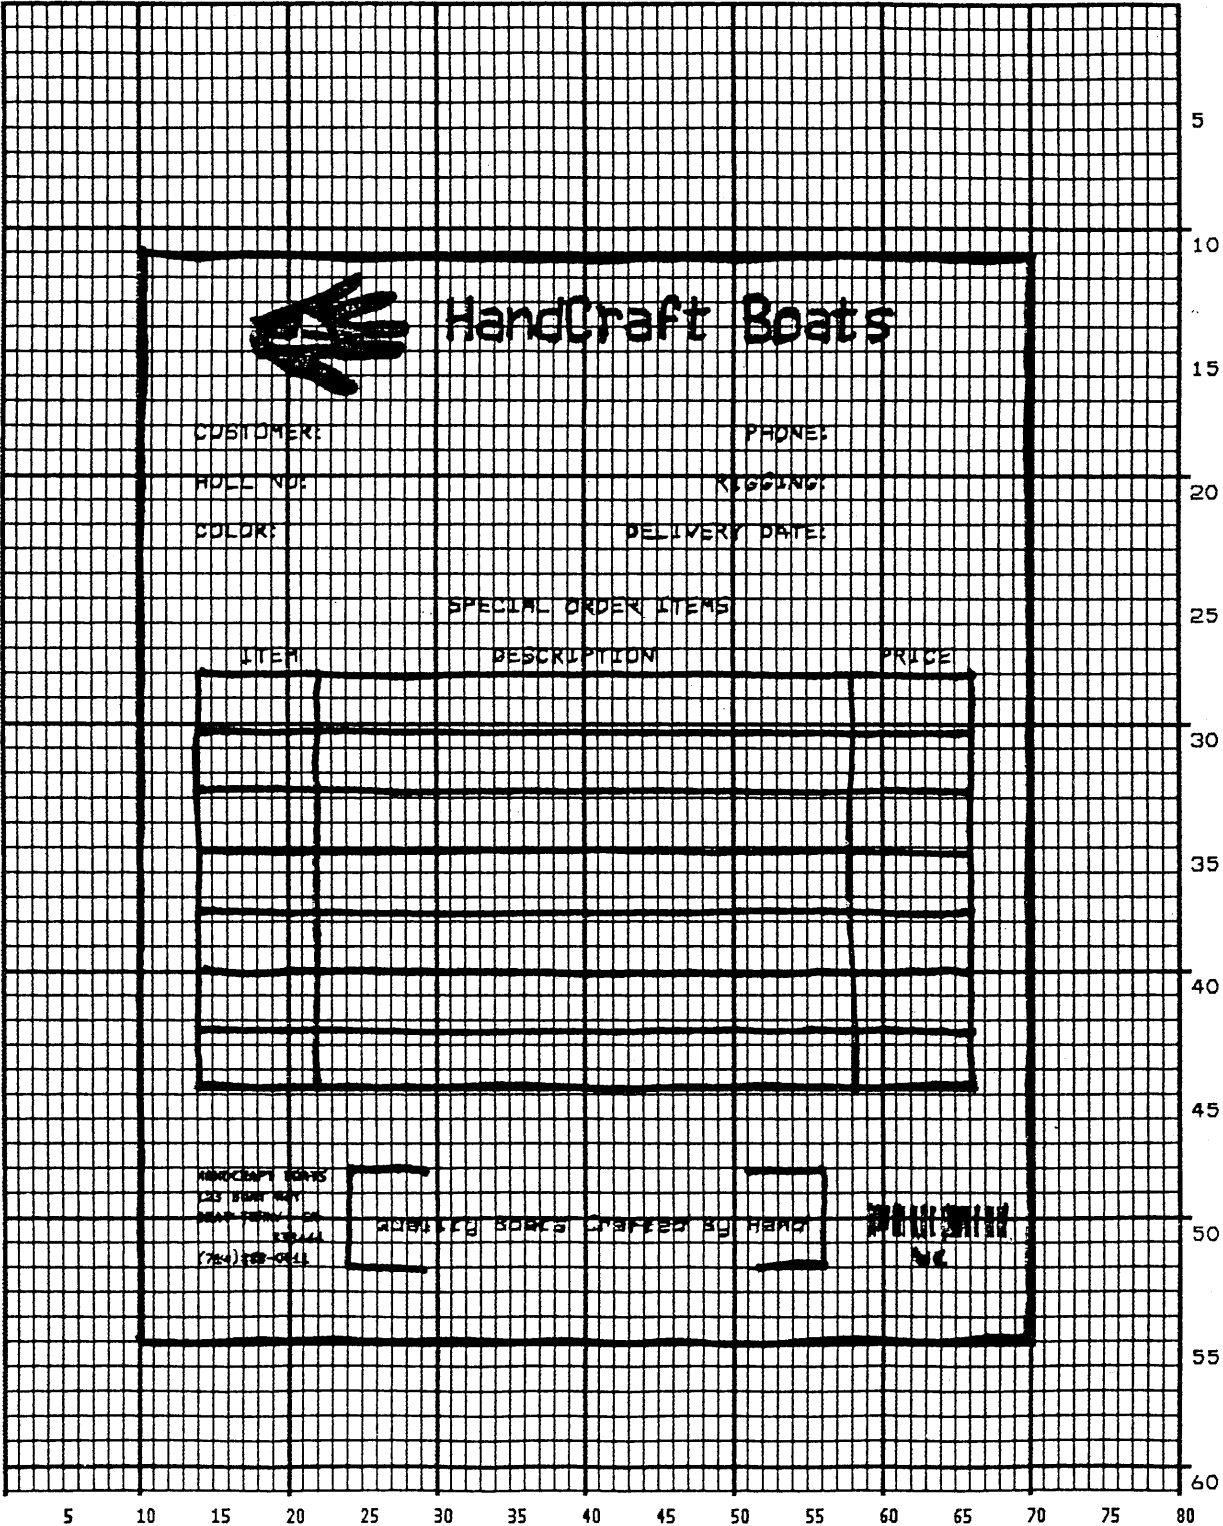

Figure 71. Sample Form Design
1. First, design the form on the Standard Grid provided in Appendix B. Figure 71 shows the locations of the various form components. Compensate for expanded characters and plan for the logo.
4. Now create the form and start adding the form components from the layout grid. (Refer to Figure 71). Use the Special Function Control Code and Create command to define a form named HCBOATS. Use the Box command to define the outer border with a line thickness (*LT*) 3, top left corner at row (*SR*) 11 column (*SC*) 10, and bottom right corner at row (*ER*) 55, column (*EC*) 70. In the same Box command sequence, define another box with a line thickness of 2, top left corner at row 28 column 14, and bottom right corner at row 44.9 column 66. After defining the boxes, stop the Box command.